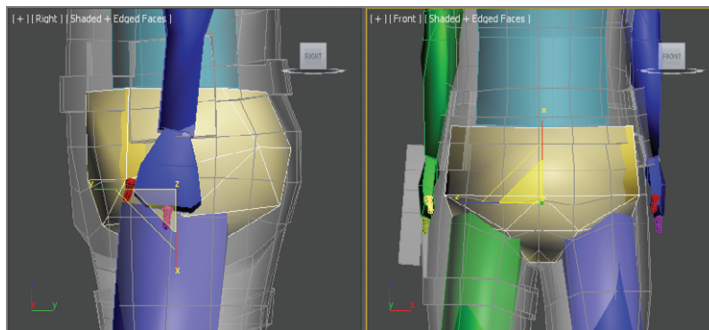

FIGURE 12.8 Scale the pelvis to fit.
10. In the Front viewport, select the pelvis and scale its width so that the biped's legs fit inside the soldier's legs. Scale the pelvis in the Right viewport so that it roughly encompasses the soldier's lower region, as shown in Figure 12.8.